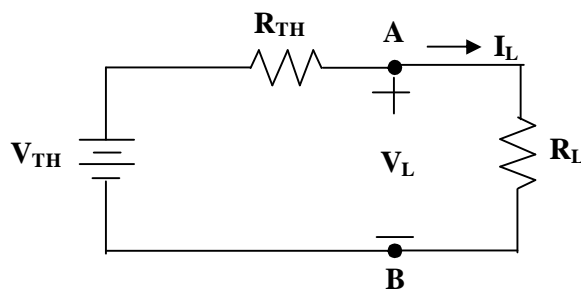

FIG.4: Thevenin Equivalent Circuit of Circuit1.
5. Construct the Thevenin's equivalent circuit as shown in figure 4 setting the power supply at V_{TH} volts and the rheostat at R_{TH} ohms. Now measure the load current I_L and the load voltage V_L for the values of R_L determined in step 2. Compare these values with previous values.